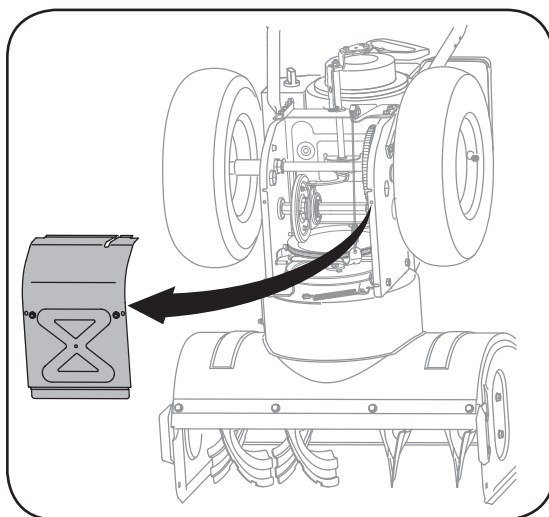

Figure 6-10
- Carefully pivot the snow thrower up and forward so that it rests on the auger housing. See Figure 6-10.